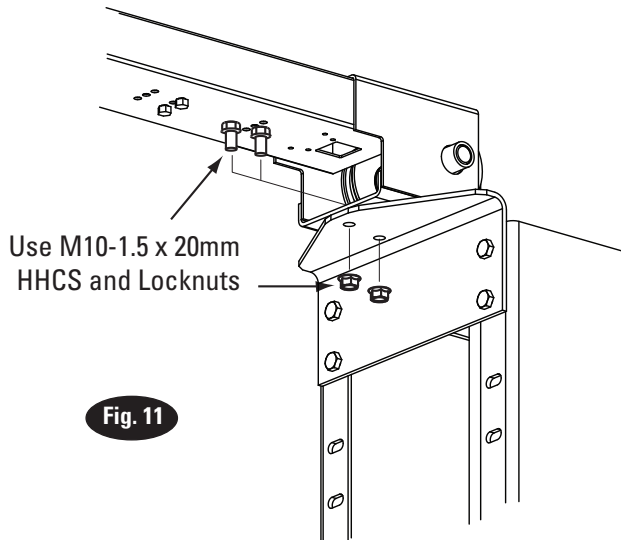

Fig. 11
**11. Overhead Installation:** Install Overhead Bracket to extension at desired height with (4) M10-1.5 x 20mm HHCS and (4) M10-1.5 Flanged Locknut. Install overhead assembly to Mounting Bracket with (2) M10-1.5 x 20mm HHCS, and (2) M10-1.5 Flanged Locknut Fig. 11. Tighten bolts at center of overhead assembly.